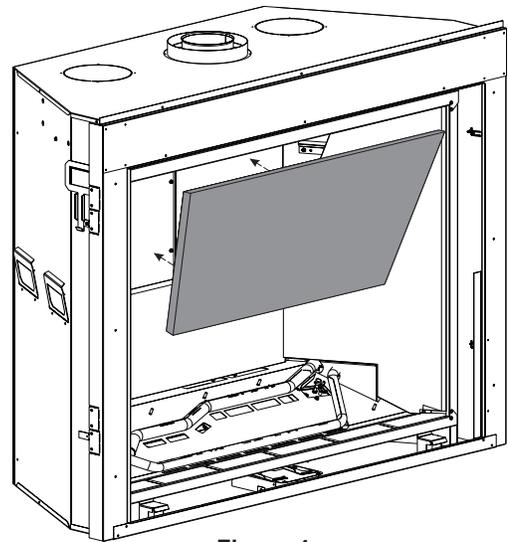

Figure 4
3. Place the LINER REAR - TOP on top of LINER REAR - BOTTOM and rest against right side of FIREBOX and LINER SIDE - RIGHT. See Figure 4.